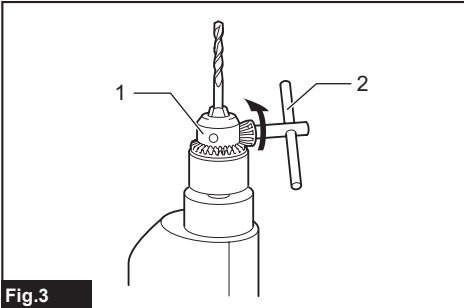

Fig.3
► Fig.3: 1. Drill chuck 2. Chuck key